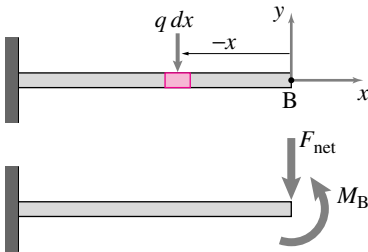

Figure 8.13
3. **The equivalent system at the end:** The net force remains the same as above. We compute the net moment about the end point B, referring to Fig. 8.13, as follows.